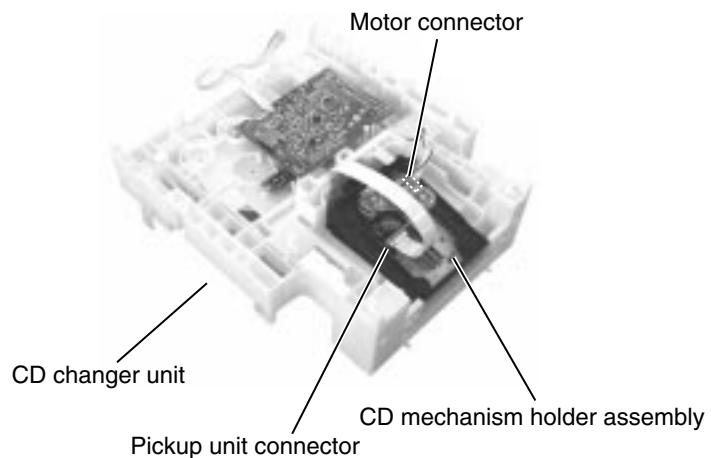

Fig.35
■ Removing the CD mechanism holder assembly (mechanism included) (See Fig.35 to 38)